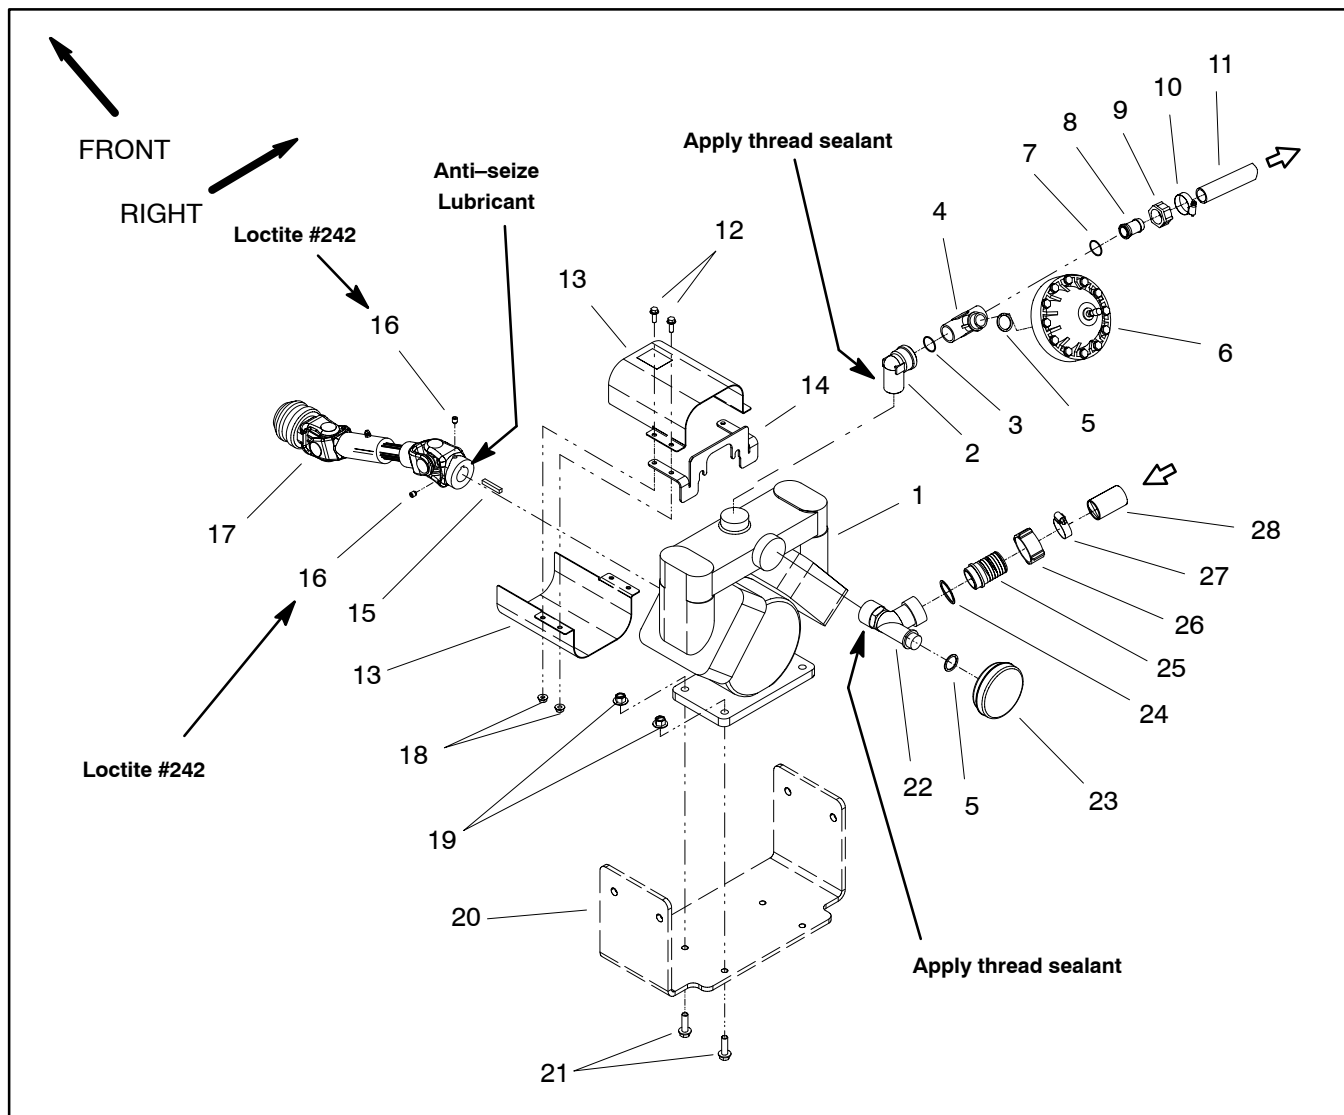

Figure 6
Removal (Fig. 6)
2. Loosen hose clamp that secures suction hose (item 28) to hosebarb (item 25). Pull suction hose from hosebarb.
3. Loosen hose clamp that secures pressure hose (item 11) to hosebarb (item 8). Pull pressure hose from hosebarb.
4. Remove PTO driveshaft (item 17) from output shaft of transaxle PTO assembly.
5. Remove four (4) flange head screws and flange nuts that secure pump assembly to pump mount bracket.
7. Remove four (4) flange head screws and flange nuts that secure pump drive shrouds (item 13) to shroud bracket (item 14). Remove pump drive shrouds.
8. Loosen two (2) set screws (item 16) that secure PTO drive shaft to pump shaft. Separate PTO drive shaft from pump. Locate and remove key from pump shaft.
9. As needed, remove pressure and suction components from pump using Figure 6 as a guide. Discard any removed o-rings and gaskets.
Installation (Fig. 6)